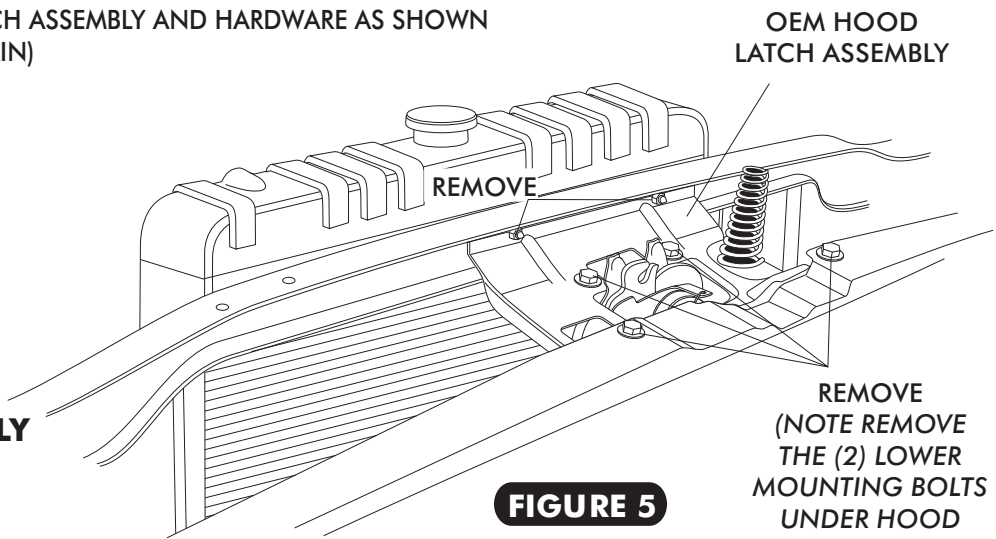

FIGURE 5
- REMOVE OEM HOOD LATCH ASSEMBLY AND HARDWARE AS SHOWN BELOW IN FIGURE 5. (RETAIN)